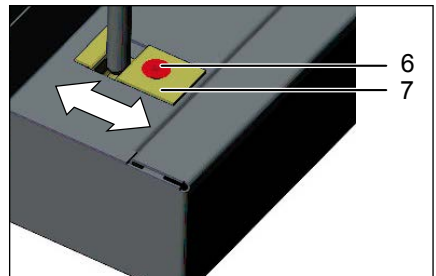

Fig. 39 Adjusting locking plate
1. Undo the maggot screw (5) (with a jolting motion, as it is fixed with locking paint).
2. Adjust the door by turning the eccentric (3) with a screwdriver.
The locking plate (Fig. 39) can also be adjusted in the direction of the arrows after undoing the screw (6).
1. Undo screw (6).
2. Move locking plate (7) in direction of arrow.